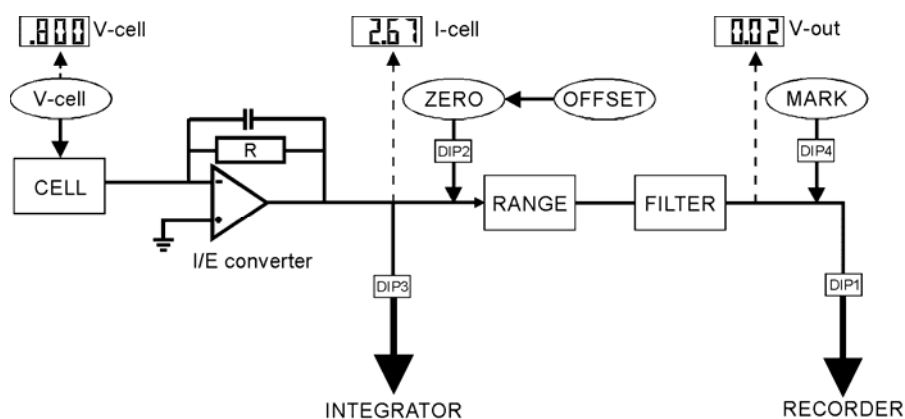

Fig. 7. Signal processing in the INTRO. A selectable resistor (R) in the I/E converter is used for the ' $\times 100$ ' attenuation.
A maximum of +/- 150 mV (10.0 V output) or +/- 15 mV (1.0 V output) can be set. The maximum current that can be handled is not affected by the offset. Turning OFF the zero also inactivates the offset level (see Fig. 7).
At the working electrode (WE) in the electrochemical flow cell the electron transfer takes place due to an oxidation or reduction reaction. The resulting electrical current is measured by the current-potential (I/E) converter (Fig. 7). The I/E converter is equipped with a selectable resistor (R) for the  $\times 100$  attenuation (att. 100).